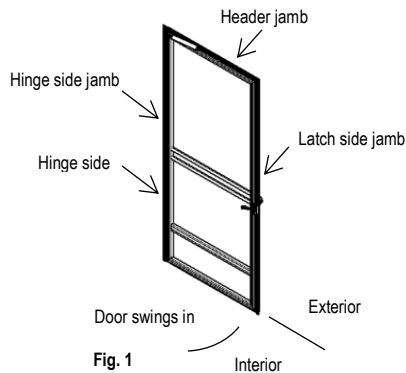

Fig. 1
- After door is installed determine location of handle assembly on door. With screen door in closed position use template provided in inswing hardware kit to mark latch location on door jamb and locations for three 1/4" holes on door for handle installation (Fig. 1).